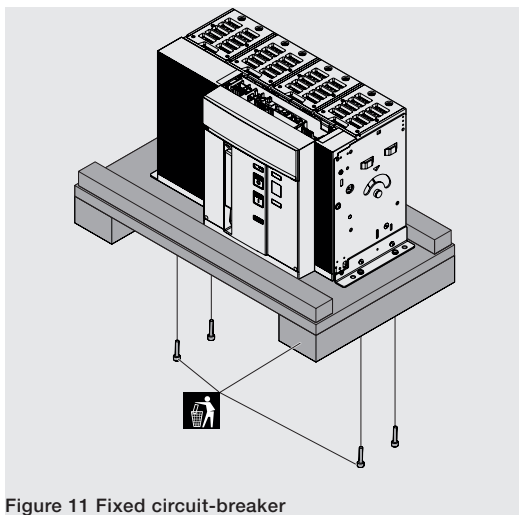
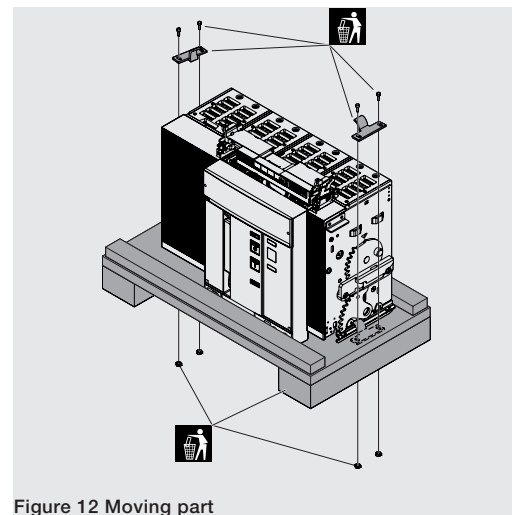
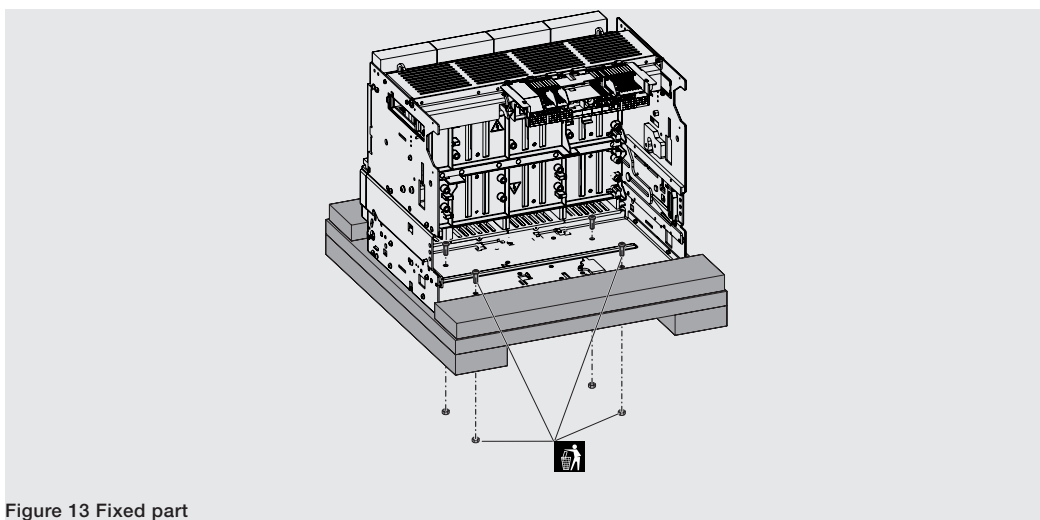

Figure 11 Fixed circuit-breaker
Figure 12 Moving part
Figure 13 Fixed part
4. Take out the screws (See Figure 11 Fixed circuit-breaker). Take out the screws and the mounting brackets (See Figure 12 Moving part, Figure 13 Fixed part).